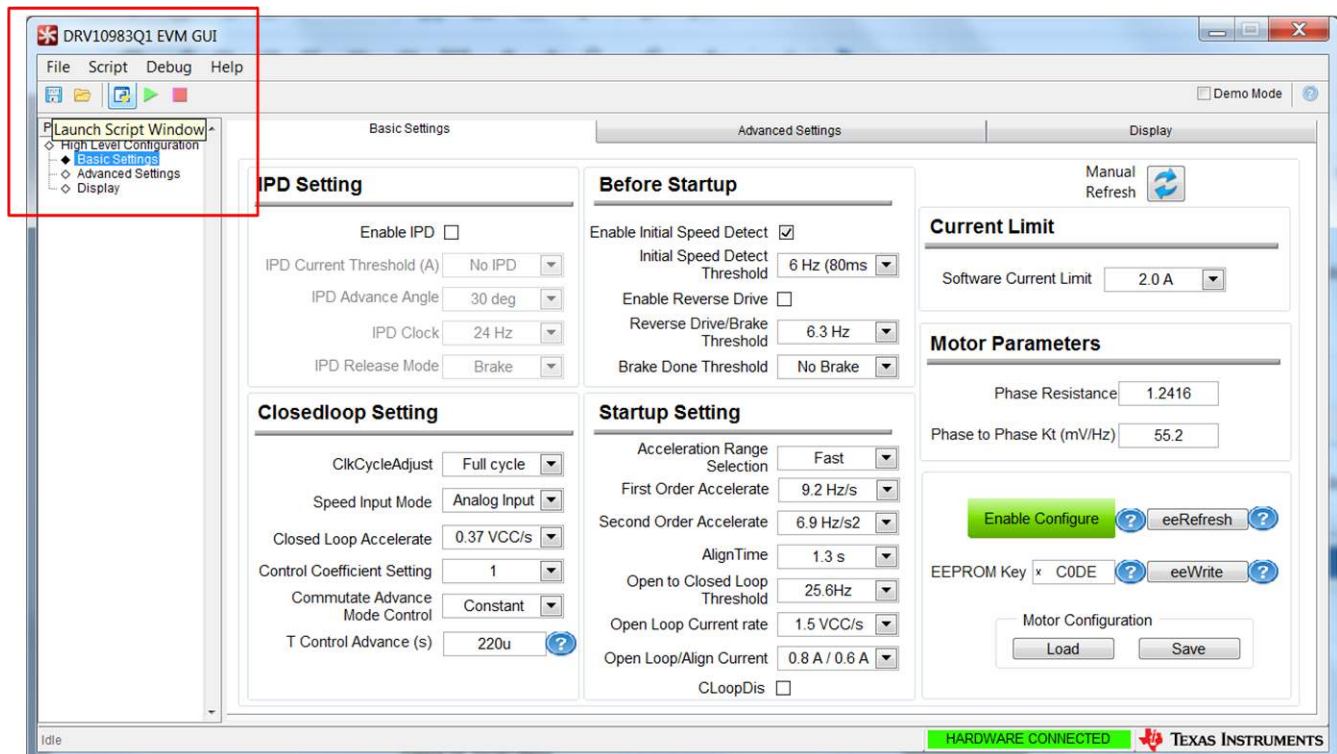

Figure 35. Script Menu
- Step 1. Go to the *Script* menu in the DRV10983Q1 EVM GUI and select the *Launch Script* option to start recording or click the *Launch Script Window* button as shown in Figure 35.